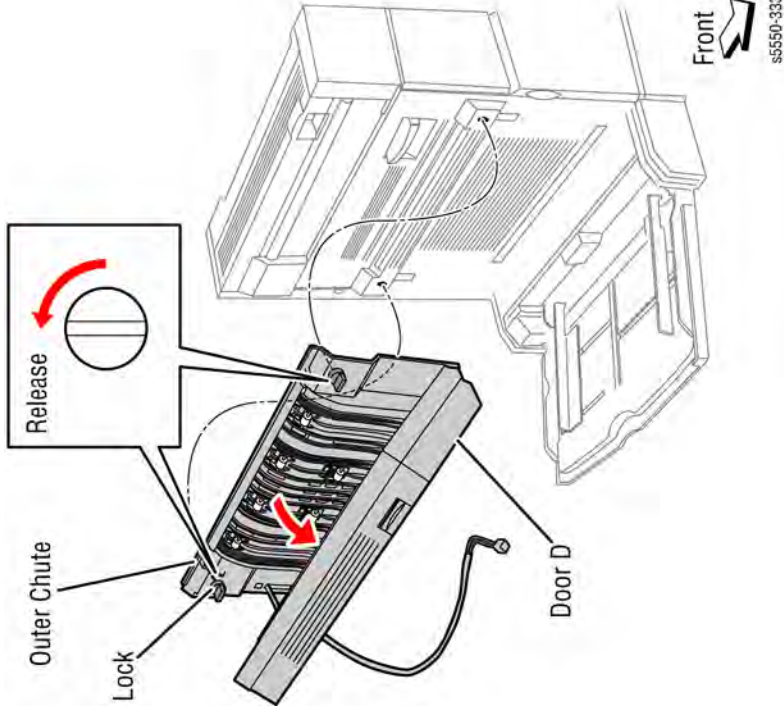

Figure 2 Removing the Duplex Unit
5. Turn the two locks on the Outer Chute 90 degrees as shown in Figure 2 to release the Duplex Unit from the printer.